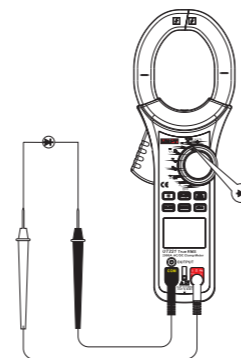

Figure 6
4. Diode test (▶) (See Figure 6)